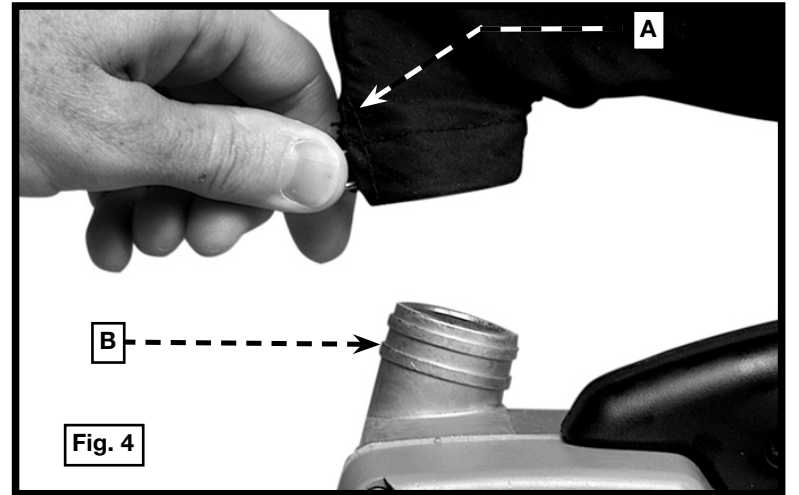

Fig. 4
Depress the dust bag spring clips (A) Fig. 4, and place the dust bag spring (A) between the ridges on the spout (B).